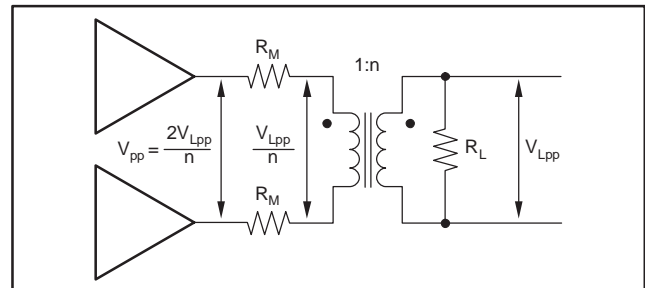
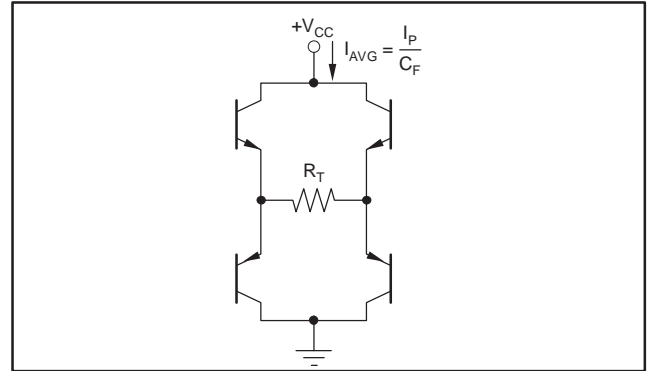

Figure 7. Driver Peak Output Voltage
Figure 9. Output Stage Power Model
With  $V_{LPP}$  as defined in Equation 8, and  $R_M$  as defined in Equation 4 and shown in Figure 7.
OPA2613 holds a relatively constant quiescent current versus supply voltage—giving a power contribution that is simply the quiescent current times the supply voltage used (the supply voltage will be greater than the solution given in Equation 12). The total output stage power may be computed with reference to Figure 9.
The two output stages used to drive the load of Figure 7 can be seen as an H-Bridge in Figure 9. The average current drawn from the supply into this H-Bridge and load will be the peak current in the load given by Equation 10 divided by the crest factor (CF) for the xDSL modulation. This total power from the supply is then reduced by the power in  $R_T$  to leave the power dissipated internal to the drivers in the four output stage transistors. That power is simply the target line power used in Equation 5 plus the power lost in the matching elements ( $R_M$ ). In the examples here, a perfect match is targeted giving the same power in the matching elements as in the load. The output stage power is then set by Equation 13.